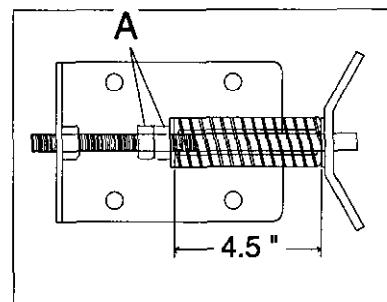

Figure 11
2. Loosen the nuts (A) on the spring rod to release the tension. (See Figure 11).
1. Tighten the nut on the spring rod until the spring is compressed to 4-1/2" as shown in Fig. 11. Be sure the front roller is parallel with the drive roller. This can be done by measuring the distance between the drive roller bearing bolt and the idler roller bearing bolt on each side. If there is a difference tighten the nut on the spring rod until distance on both sides is equal.